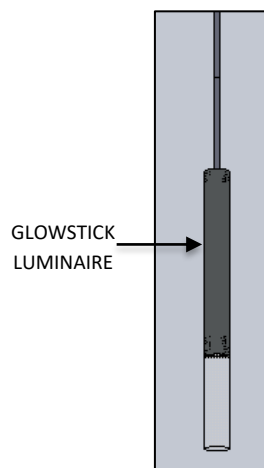

FIG. 3 GLOWSTICK LUMINAIRE
1. GLOWSTICK LUMINAIRE (7 OR 14) with CORD attached. (Pre-assembled as shown in FIG. 3)